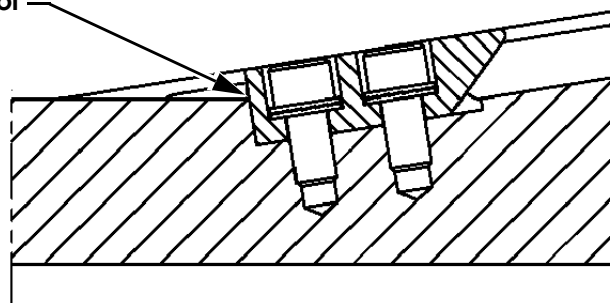

Figure 6
- Refer to Figure 6 for the assembling detail.
- Ensure the retainer is tight to the face of the pocket before the bolts are tighten. See Figure 6: